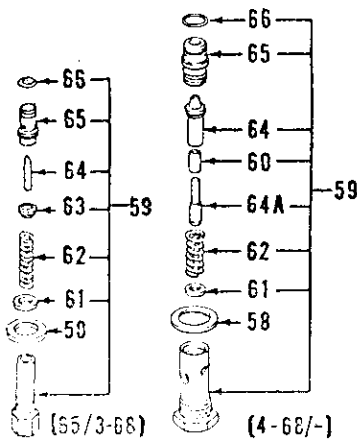

Fig. 376—Exploded view of early (65-3/68) and late (4/68 & up) hydraulic system relief valve for all models.
Refer to exploded view of pressure relief valve in Fig. 376 and unscrew the relief valve seat (65), then remove the valve (64), spring seat (63); or seal (60), guide pin (64A), and spring (62). Add one shim to shim stack (61) to increase relief valve setting or remove a shim to decrease setting; a difference in shim stack thickness of 0.010 should change relief valve setting approximately 100 psi. CAUTION: Measure total shim stack thickness and do not install a total thickness of more than 0.080. Shims are available in thicknesses of 0.010, 0.015 and 0.025. Reassemble the relief valve, reinstall with new "O" ring (66) and recheck pressure.